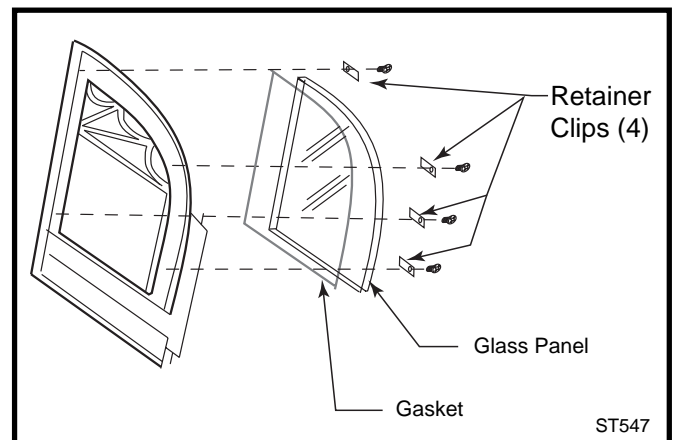

Fig. 32 An exploded view of the glass assembly on the left door.
2. Secure the glass on both doors with the retainer clips. Tighten all screws. (Fig. 32)